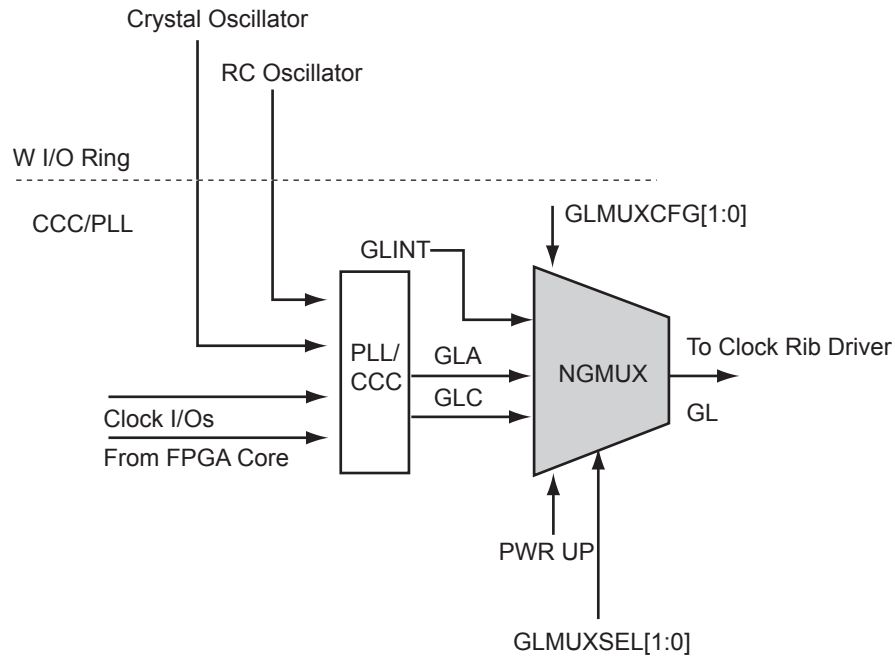

Figure 2-24 • NGMUX
Positioned downstream from the PLL/CCC blocks, the NGMUX provides a special switching sequence between two asynchronous clock domains that prevents generating any unwanted narrow clock pulses. The NGMUX is used to switch the source of a global between three different clock sources. Allowable inputs are either two PLL/CCC outputs or a PLL/CCC output and a regular net, as shown in Figure 2-24. The GLMUXCFG[1:0] configuration bits determine the source of the CLK inputs (i.e., internal signal or GLC). These are set by SmartGen during design but can also be changed by dynamically reconfiguring the PLL. The GLMUXSEL[1:0] bits control which clock source is passed through the NGMUX to the global network (GL). See Table 2-13.